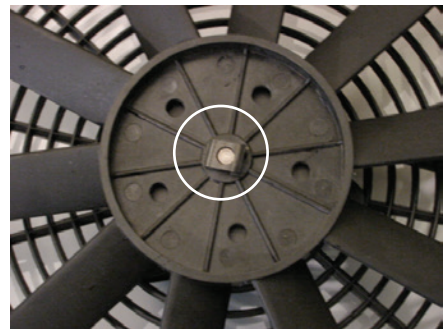

FIG. 1
3. Remove the fan blade. (figure 1)
5. Reinstall the metal retainer clip. (figure 1)